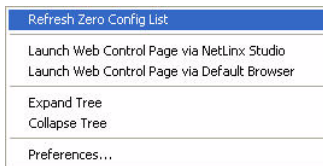

FIG. 6 NetLinx Studio - Zero-Config context menu
1. In NetLinx Studio (version 3.0 or higher), right-click inside the *Zero-Config* tab of the Workspace Bar to access the Zero-Config context menu (FIG. 6).